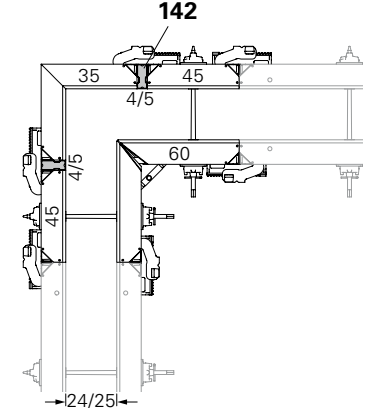

Fig. C2.04
- Wall thickness 24/25: Fig. C2.04